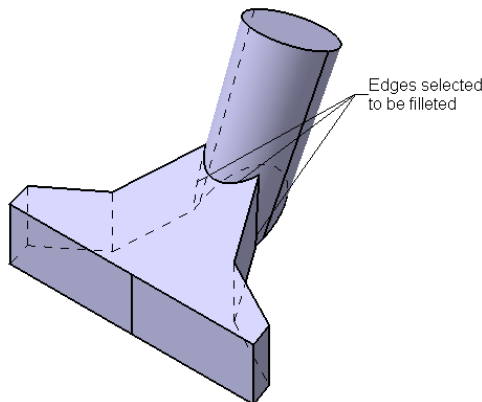

Figure 5-81 Edges to be selected
- Apply fillets to all edges of the model, refer to Figures 5-81 through 5-84.
2. Select the edges, as shown Figure 5-81, and set the value of the **Radius** spinner to **12**.